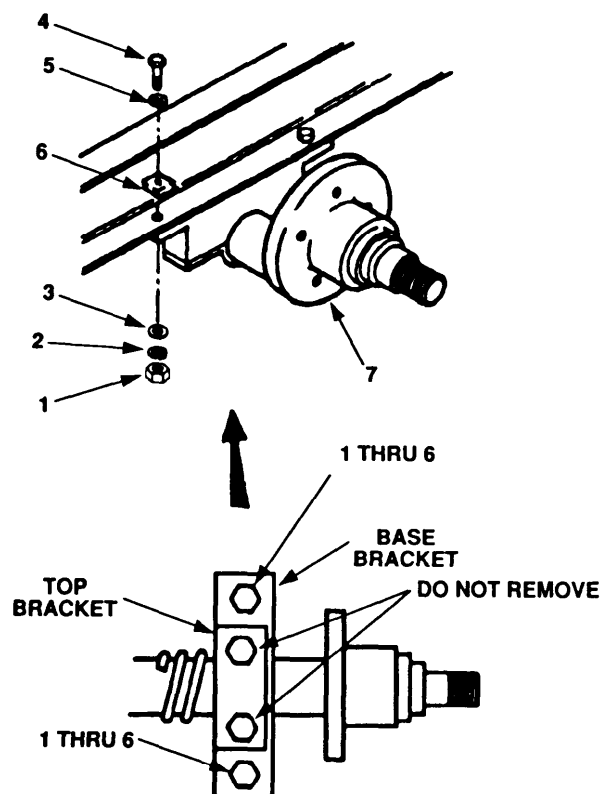

Figure 5-17. Axle Assembly Maintenance.
- c. Remove four nuts (figure 5-17, 1) lockwashers (2), washers (3), bolts (4), washers (5) and beveled washers (6).
- d. Axle assembly (7) is now free from frame. Remove axle assembly (7) from supports and move free of frame.